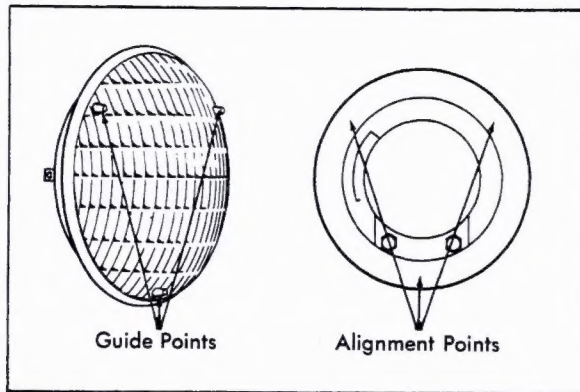

Fig. 12-6 Installing Aimers on Sealed Beams
3. Clean headlight lens. Position aimers on outer headlights. Guide points must engage smooth inner ring of aimer at alignment points, Fig. 12-6 and the "sight" openings on each aimer must point toward center of car.